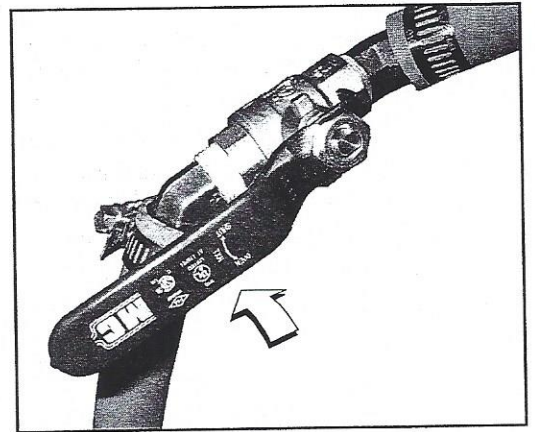
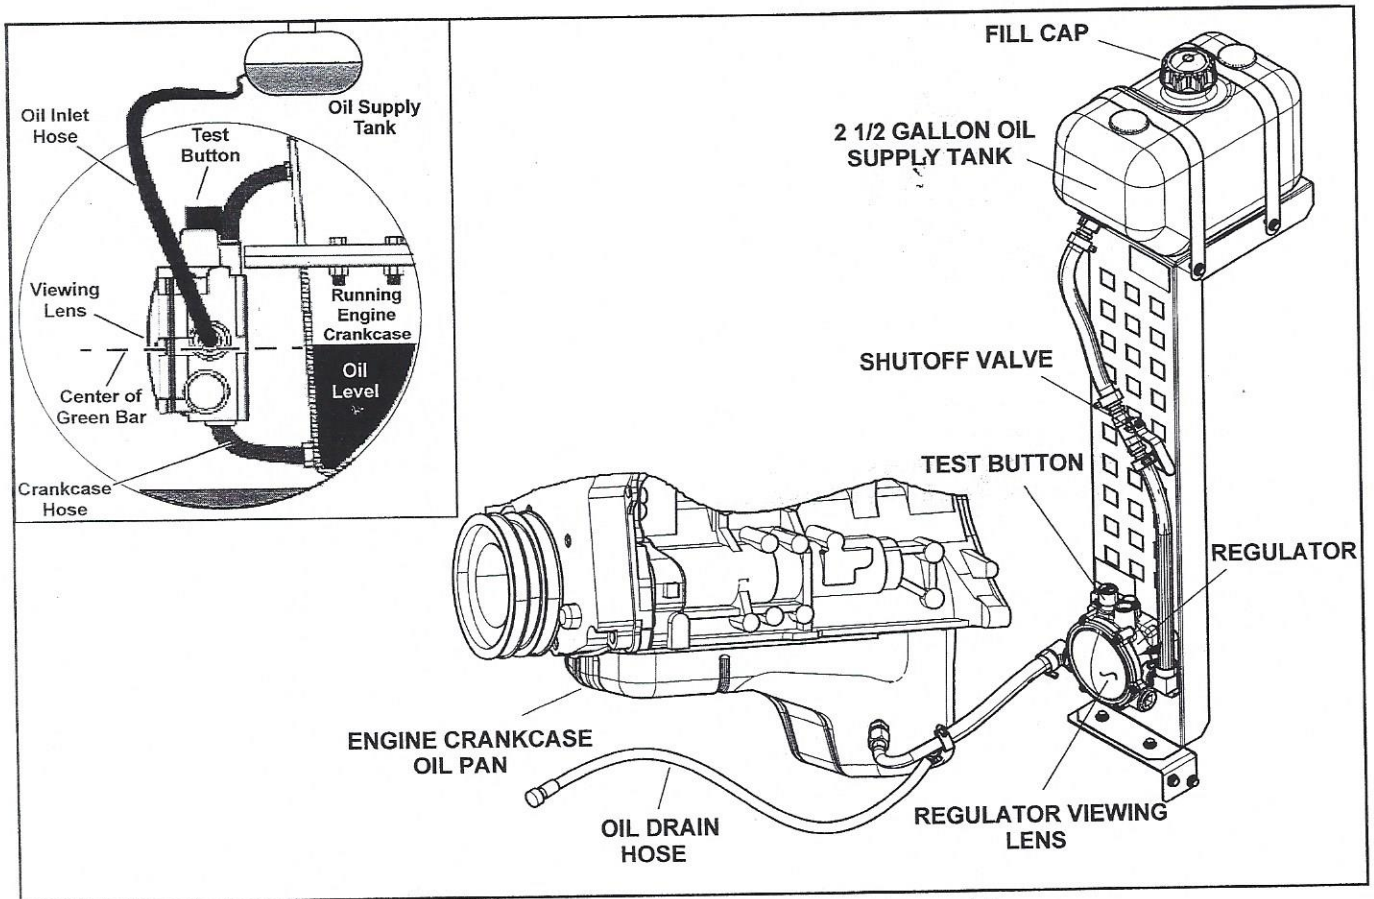

Figure 5-19. Shutoff Valve (Shown in Open Position)
Figure 5-20. Lube Oil Maintainer Assembly and Function Diagram
NOTE: When changing engine oil, always close the shutoff valve to avoid draining the clean oil in the oil supply tank with the crankcase oil. See Figure 5-19.
2. Remove fill cap at top of oil supply tank (Figure 5-20).
See Figure 5-19 and Figure 5-20. When draining engine crankcase oil, always close shutoff valve to avoid draining clean oil from supply tank.